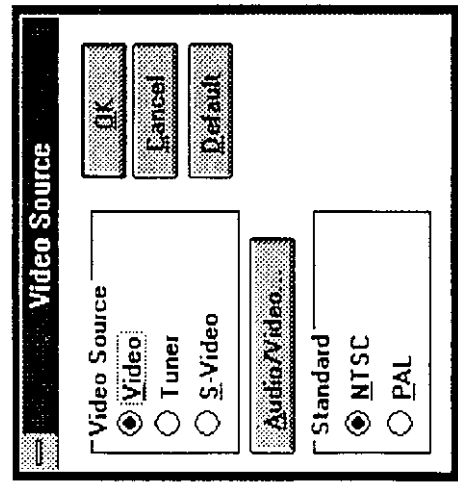

Figure 3-19.
4. CLICK on Video Source to set the source of the video signal (see Figure 3-19).